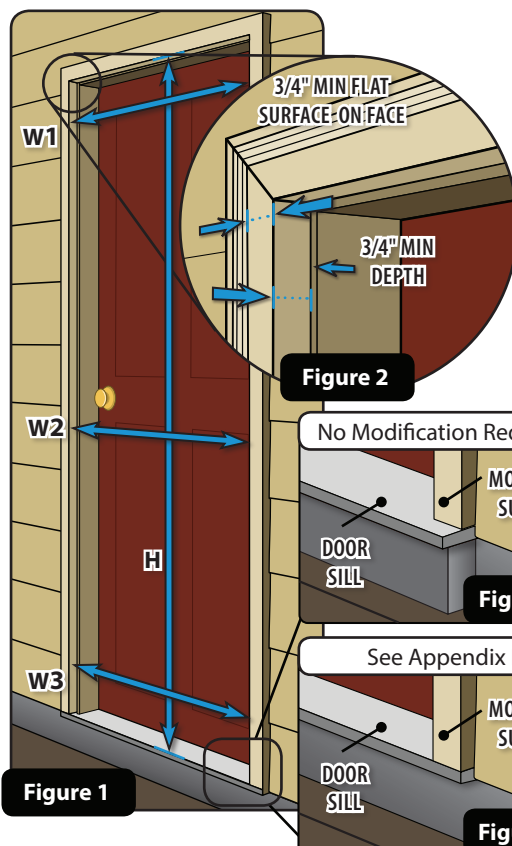

Figure 2
3. Make sure that the exterior trim meets the mounting surface requirements to accommodate the retractable insect screen assembly (see Figure 2). The assembly needs 3/4" flat surface on exterior trim face and 3/4" minimum depth of mounting surface.